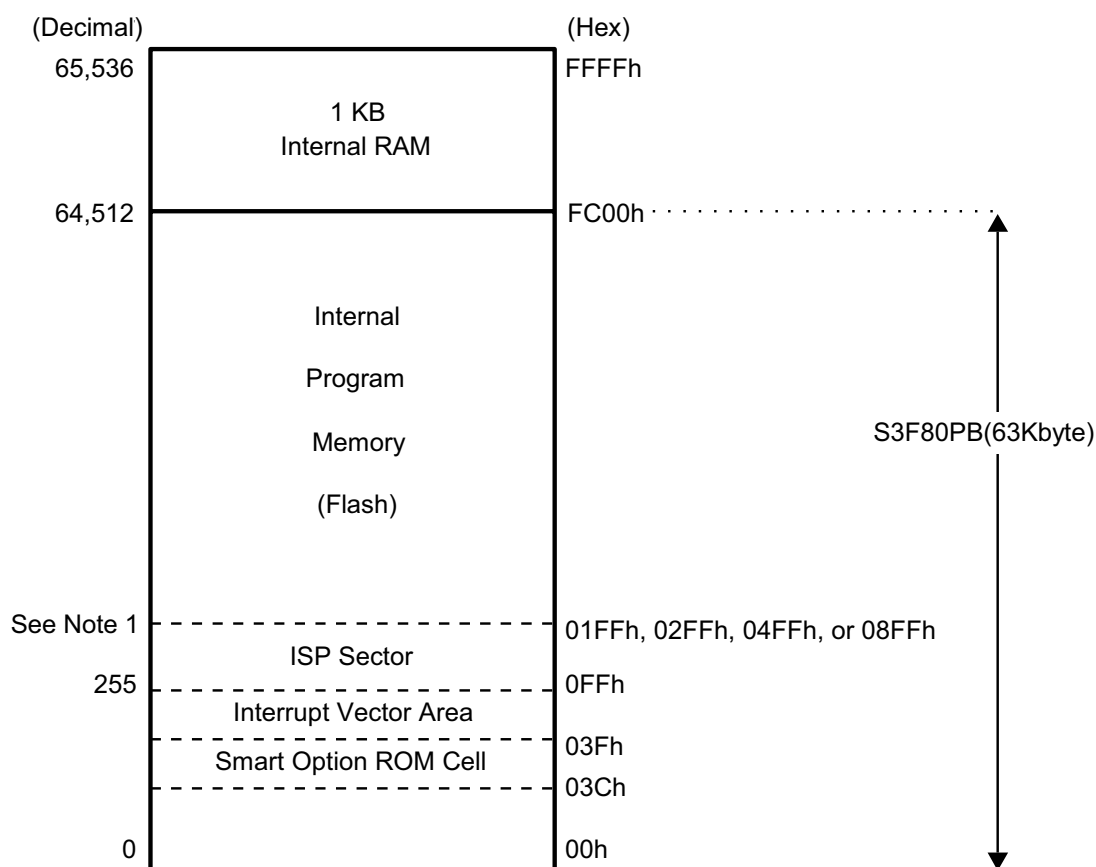

Figure 13. Program Memory Address Space
The program memory address range is therefore 0000h–FFFFh of Flash memory, as shown in Figure 13.
1. In Figure 13, the size of the ISP sector can be varied by the Smart Option. According to the Smart Option settings, the ISP reset vector address can be changed to one of the following addresses: 200h, 300h, 500h, or 900h.